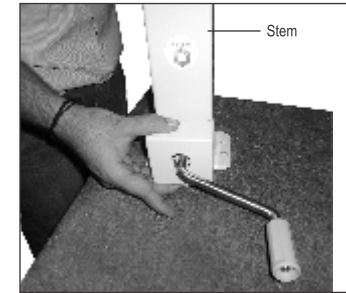
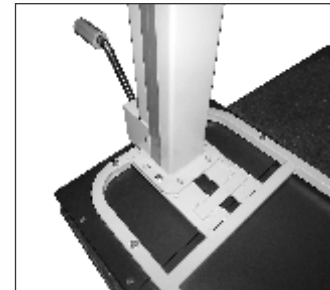

Fig 2
Fig 3
2. Place the stem (Fig 2) on the top as shown in (Fig 3) and fasten it with top using bolts.